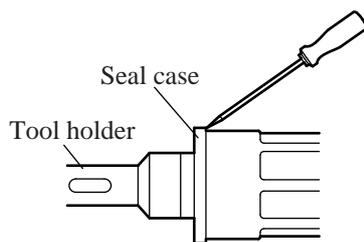

Figure 13
- a. Place the slotted driver at the dent portion on the external place of Seal case and slightly strike it to remove the Seal case.(See the figure 13.)